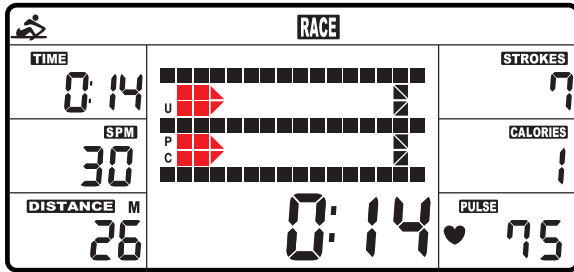
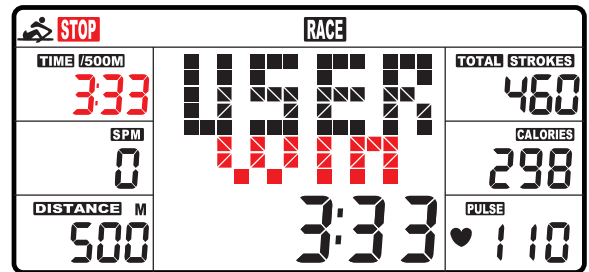

Fig. 9
Fig. 10
A. Press START button to start and STOP will disappear. USER and PC will display in the matrix (Fig.9). The computer will stop when either user or computer has reached the race distance that was set. Then the matrix displays “PC WIN” or “USER WIN” (Fig.10).